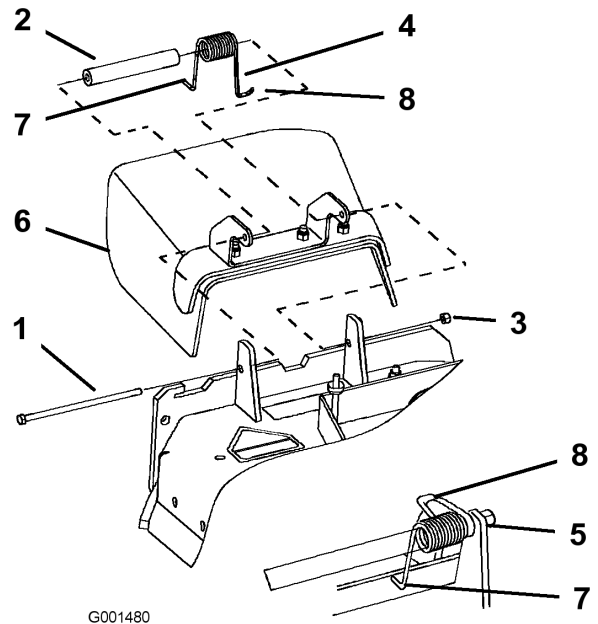

Figure 62
1. Remove the locknut, bolt, spring and spacer holding the deflector to the pivot brackets (Figure 62). Remove damaged or worn grass deflector.